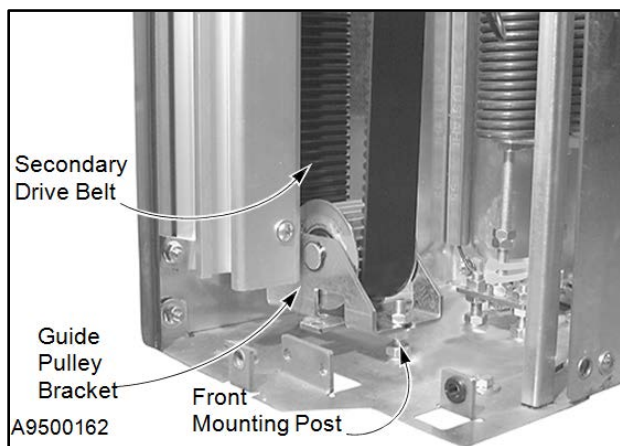

Figure 68
7. Release the tension from each secondary drive belt by removing the guide bracket from its front and rear mounting posts. The pulley bracket is held in place by a nut threaded onto each post. (See Figure 68.)